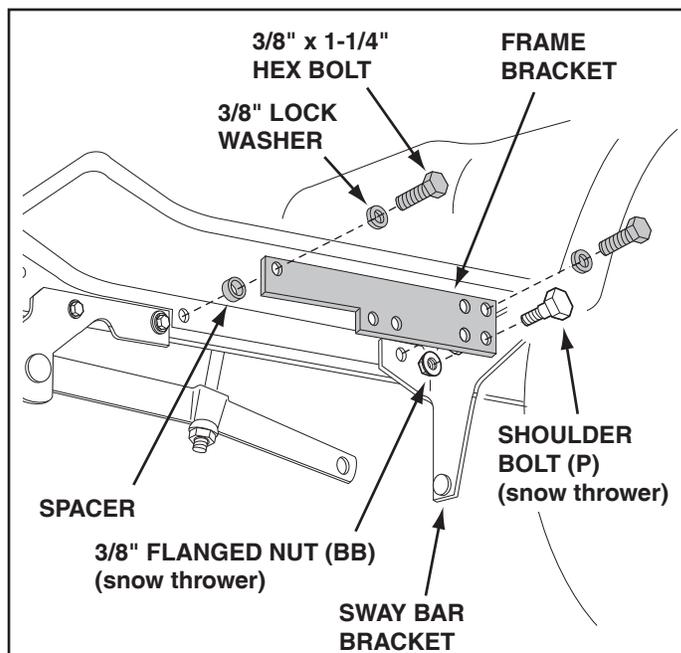

FIGURE 7 **LEFT SIDE VIEW**
STEP 7: (SEE FIGURE 7)
- Assemble a shoulder bolt (P) and a 3/8" flanged nut (BB) (both supplied with the snow thrower) to the frame bracket.